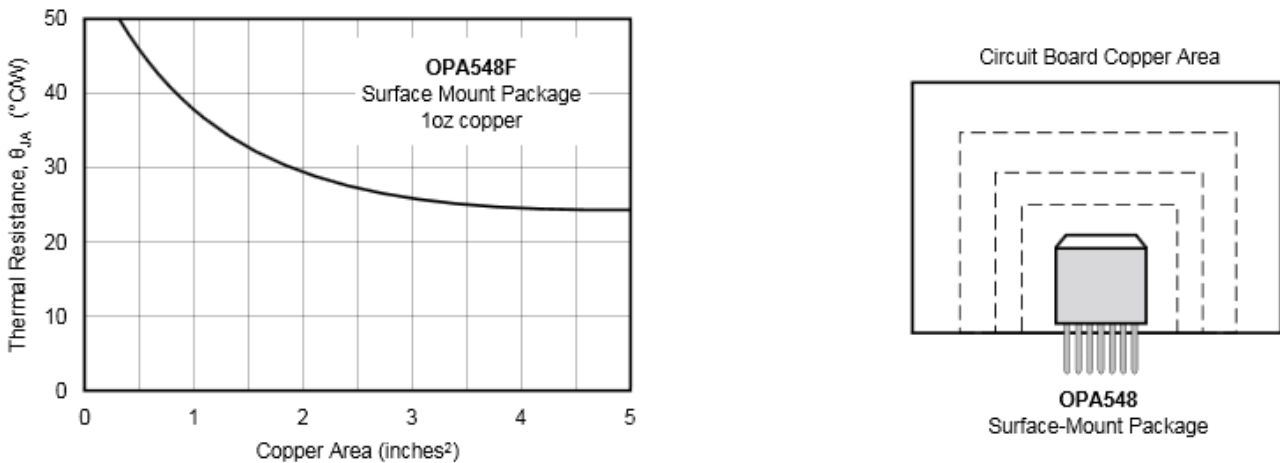

Figure 43. DPAK Thermal Resistance vs Circuit Board Copper Area
For best thermal performance, the tab of the DDPACK surface-mount version should be soldered directly to a circuit board copper area. Increasing the copper area improves heat dissipation. See Figure 43 for typical thermal resistance from junction-to-ambient as a function of the copper area.
- (1) 为了提高热性能，增加了封装面积。请参阅Figure 43。
- (2) 尺寸单位为英寸。有关公差和详细的封装图，请参见机械制图或 www.ti.com.cn。